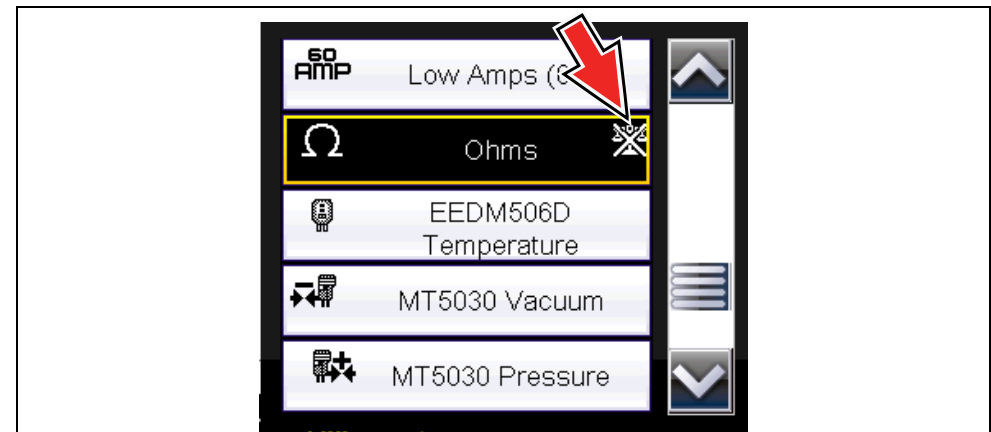

Figure 12-12 Probe menu - Ohms with “not calibrated” indicator displayed
*During an ohms test or a pressure test, a manual probe recalibration can be initiated by selecting the probe icon from the Control Panel to open the probe menu. Then select either the **Ohms** or **Pressure (100, 500, 5000)** items from the probe menu. The menu selections will display a graphic of a balance scale with an “X” through it (on right side) to indicate that probe is not calibrated (Figure 12-12).*